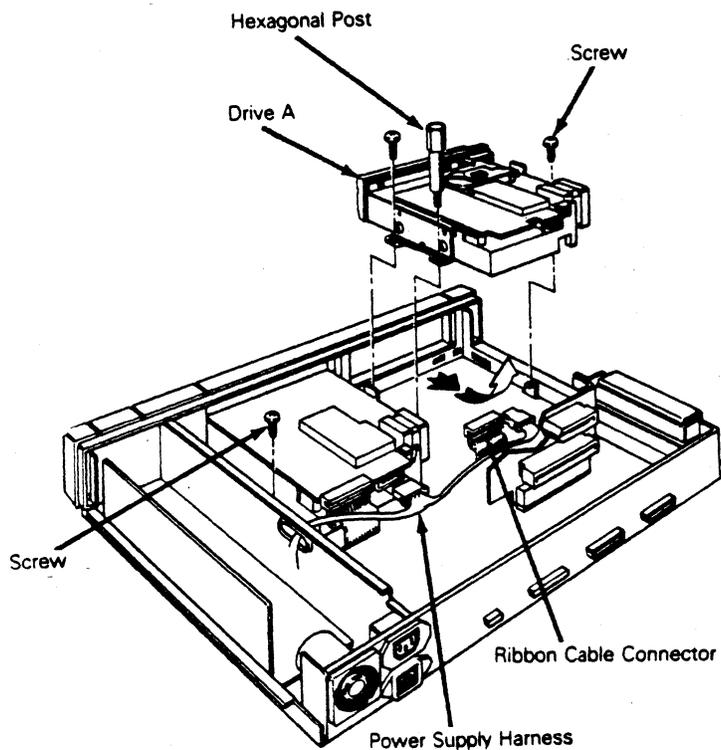

Figure 3
1. Disconnect the four-pin power supply harness connector from the back of both drives. (Figure 3)